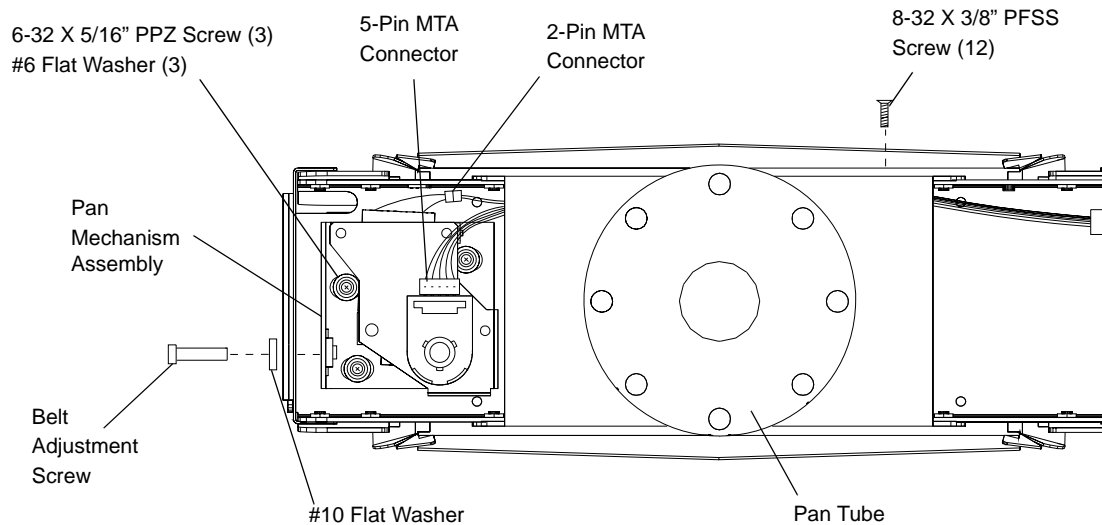

Figure 2-29: Disconnecting Pan Mechanism Assembly
- Step 8. Remove pan mechanism. **Figure 2-29.**